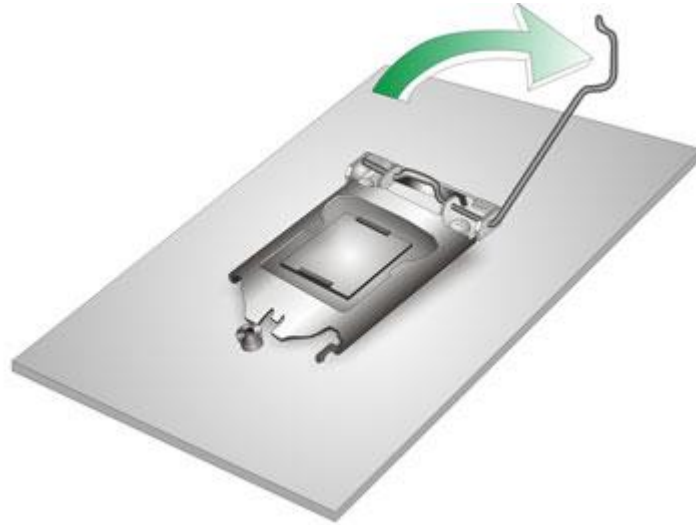

Figure 4-3: Disengage The CPU Socket Load Lever
- Step 1:** Disengage the load lever by pressing the lever down and slightly outward to clear the retention tab. Fully open the lever. See **Figure 4-3**.